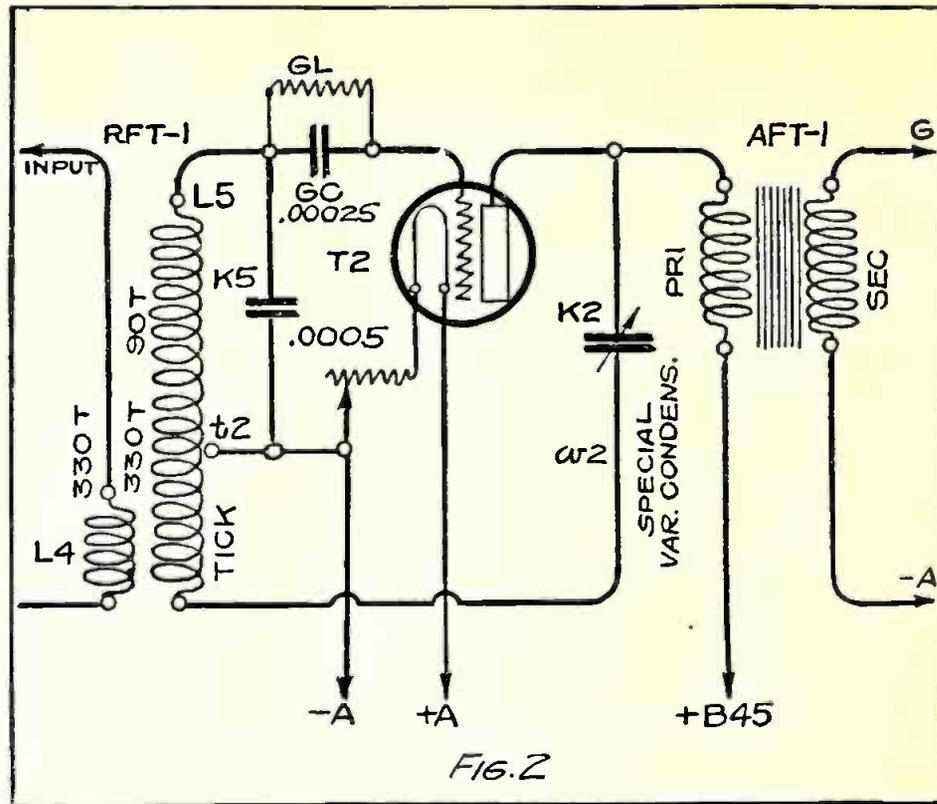

FIG. 2
Following the radio frequency circuit is the detector circuit of Fig. 2, coupled by means of the air-core radio frequency transformer or filter (RFT). The primary (L4) carries the output of tube (T1) as previously explained and acts inductively on the secondary (L5). As before, the secondary is tapped at (t2) with a connection to the (-A) line, and the lower portion of the coil (TICK) again acts as the tickler coil for securing regeneration. At (GC) and (GL) are the usual grid condenser and leak used with a detector circuit, but now variable condenser is used for tuning the system to wavelength. Coil (L4) = 330 turns of No. 26, coil (L5) = 90 turns, and (TICK) = 330 turns of same wire.